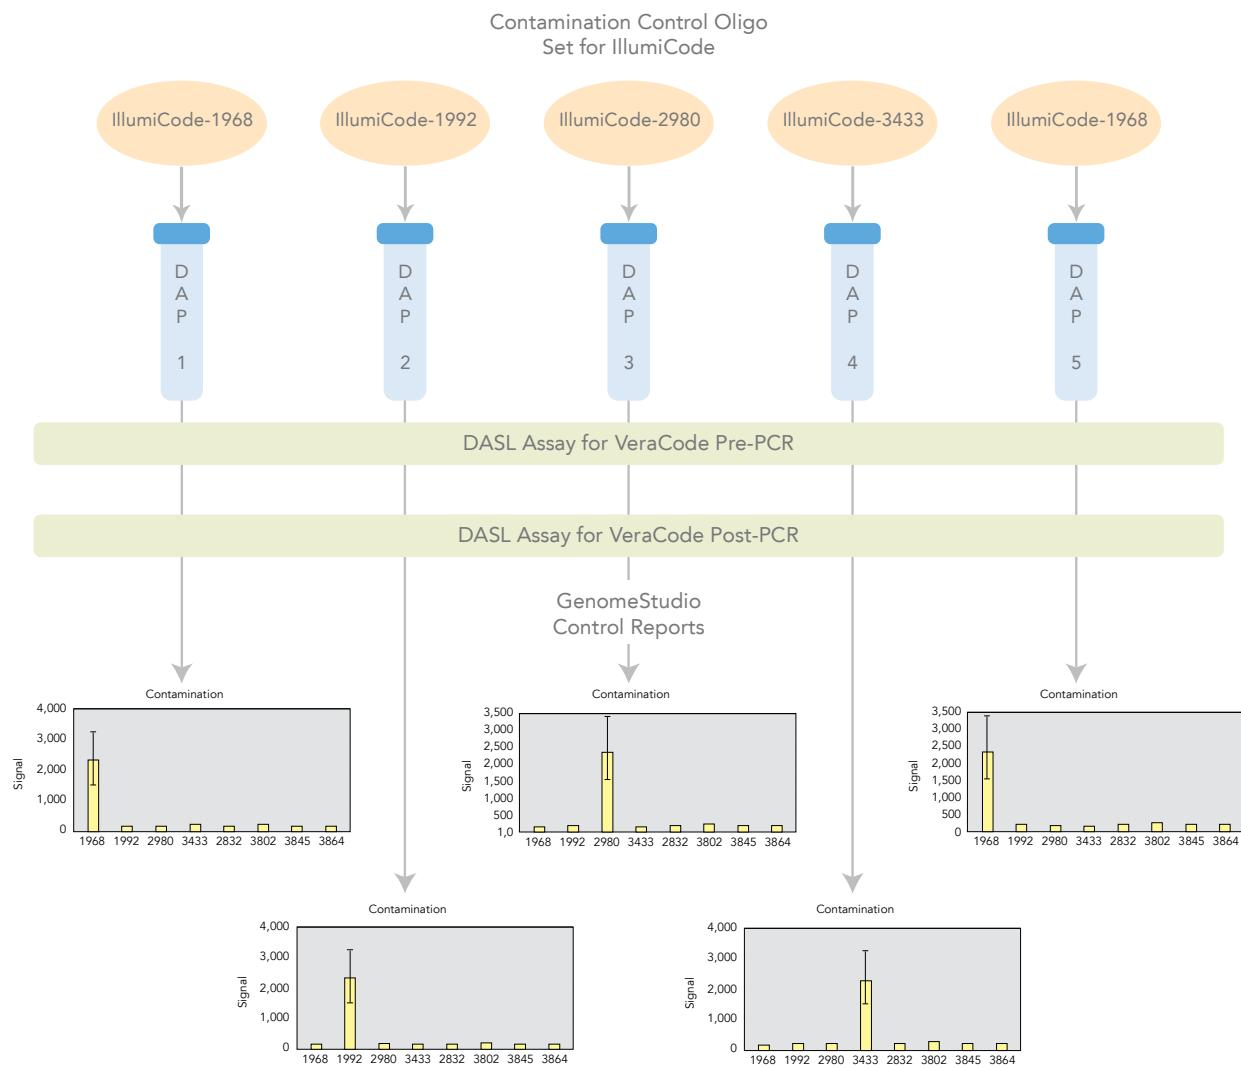

Figure 129 Contamination-Free Environment
Figures 129 through 131 provide graphic representations of these controls under three BeadStation process conditions:
- ▶ Figure 129 represents a contamination-free environment